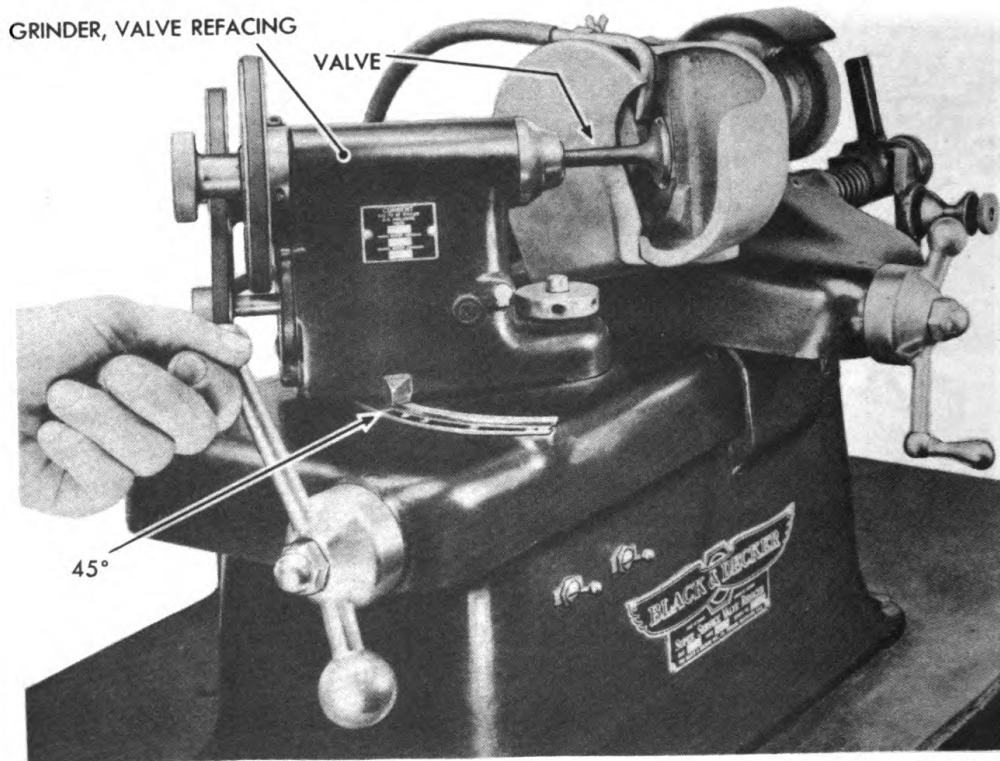

Figure 84—Valve Refacing
(d) Install each valve, in turn, in chuck of valve refacing grinder (fig. 84). Valve should run true, otherwise it is warped and should be replaced by a new valve.
83. VALVE REFACING (fig. 84).